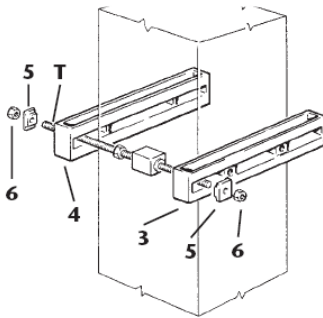

fig.28
2. Assemble the two brackets, the front one **3** and the back one **4**, for the fixing of the upper part of the bracket, in such a position to obtain the required height under the arm of the crane, inserting the safety washers **5** and the cramping nuts **6** on the staybolts **T** (fig.28).